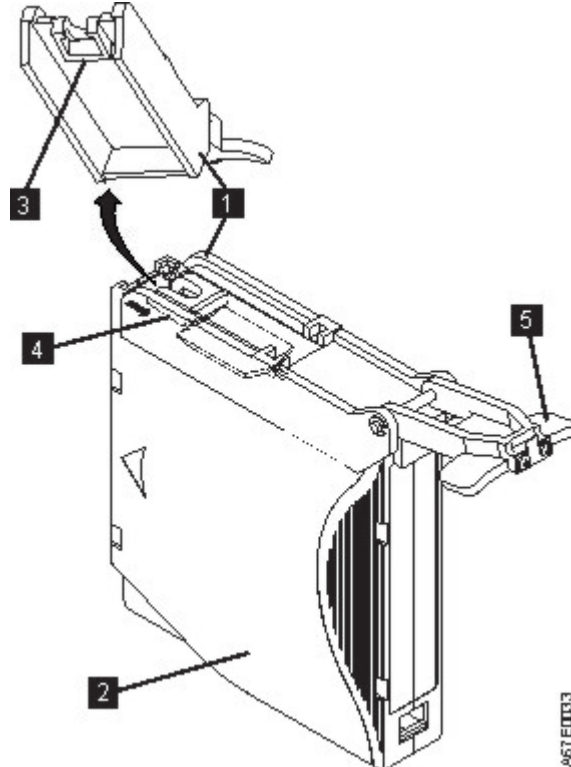

Figure 97. Attaching the leader pin attach tool to the cartridge
1. Attach the leader pin attach tool (1 in Figure 97 on page 169) to the cartridge (2) so that the tool's hook (3) latches into the cartridge's door (4). Pull the tool back to hold the door open, then slide the tool onto the cartridge. Open the tool's pivot arm (5).